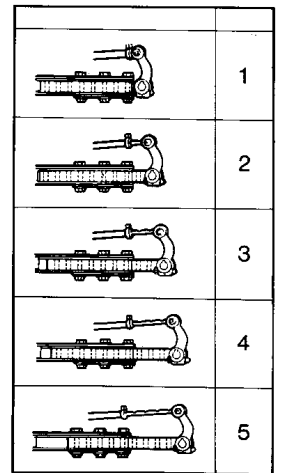

FIG. 31
3. Remove the peg bolt (4) and locknut (3).
4. Slide the axle arms and the tie rods to the required track setting (see Fig. 31).
7. Refit the peg bolts (4) and the locknuts (3). Do not overtighten the peg bolts.